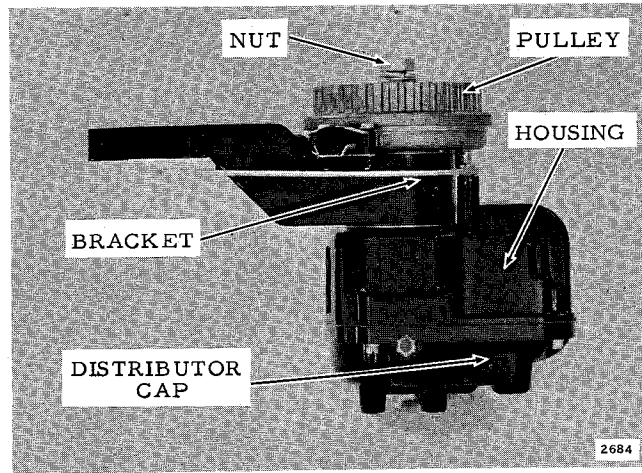
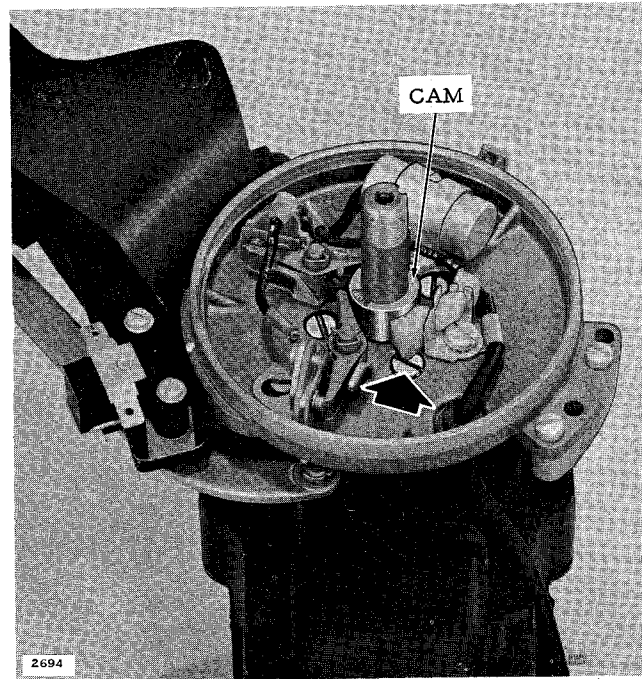

Figure 4-5. Magneto Pulley and Nut
Figure 4-6. Magneto Cam and Breaker Plate Attaching Screws
- a. Remove distributor shaft nut, lockwasher, and flat washer. See Figure 4-5. Lift magneto pulley, magneto cam, and shaft key from distributor shaft. See Figure 4-6.